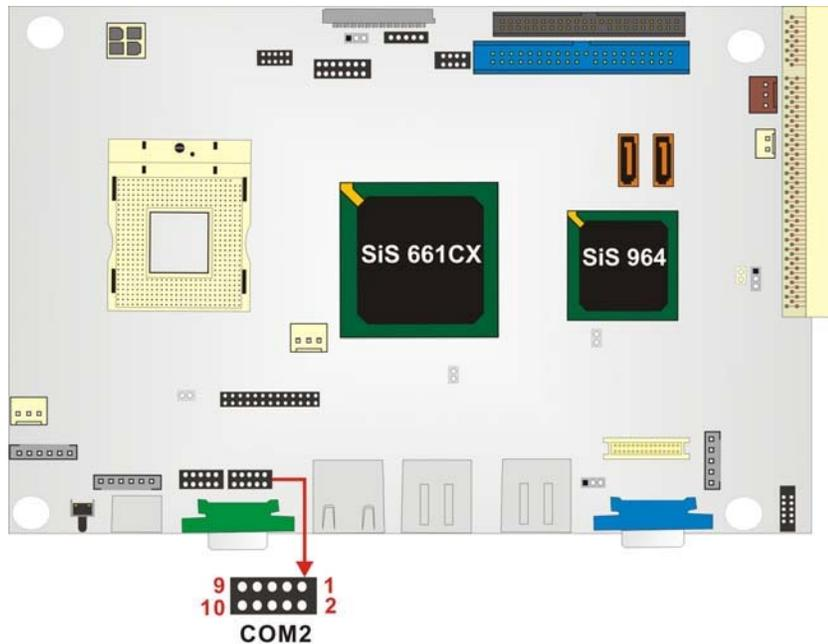

Figure 3-19: Serial Port2 Connector Pinout Locations
- CN Location:** See Figure 3-19